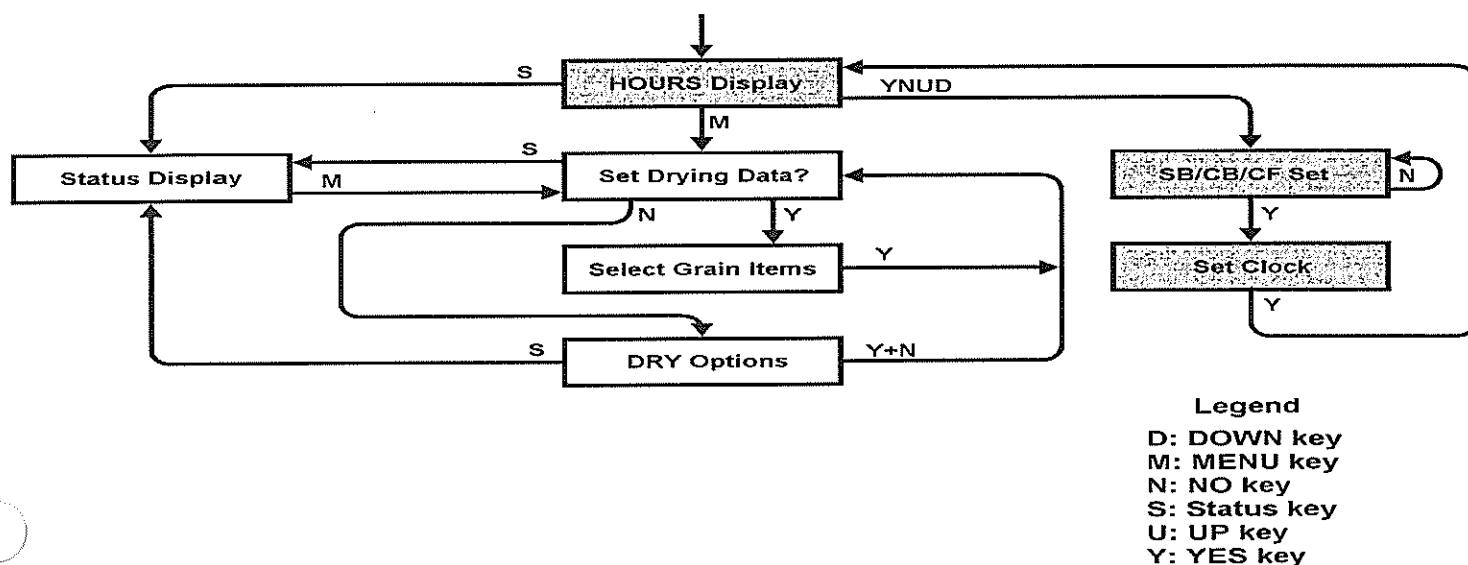

Figure 4-D Options available after the temperature information has been set.
4.2.2.2.3.6 Exit from Grain Parameter Set - Figure 4-D illustrates the options available after setting the drying temperature information. A single depression of **YES** will return the unit to the condition described **Section 4.2.2.2.3** with the display being: *Set Drying Data?* If **YES** is again pressed, the grain parameter setting sub-menus will again become active. Pressing **NO** moved the controller on to the drying option.